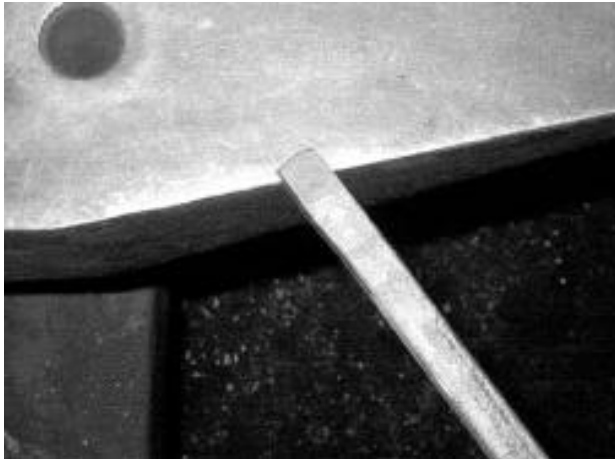

Figure 5
**Step Four:** Take another yellow heat on the last inch of the bar. Place the shoulder produced on a sharp edge of the anvil, pressing the shoulder squarely against the side of the anvil. The hand the bar is holding should be lowered slightly so the face of the scarf is off the anvil face. (Figure 4, photo). Move the hand holding the bar to the left of square, and take a blow. Moving the bar back and forth at a 90-degree angle (right to left), and using each step produced by the previous blow to brace against the side of the anvil, slowly step the bar off the anvil. (Figure 5, photo). In this